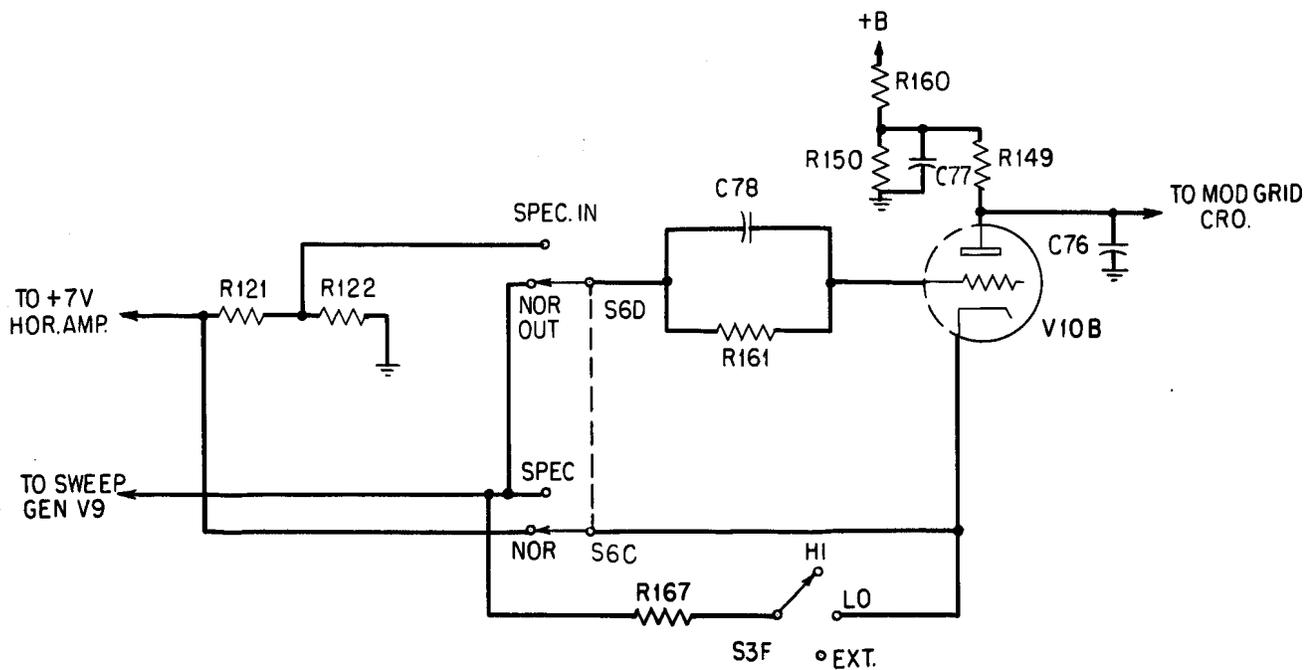

Fig. 12 — KS-15512, List 5 Oscilloscope Blanking Amplifier Circuit
4.25 (H) Blanking Amplifier: (See Fig. 12)